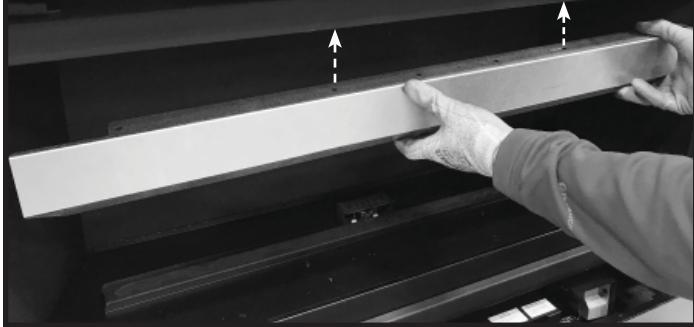
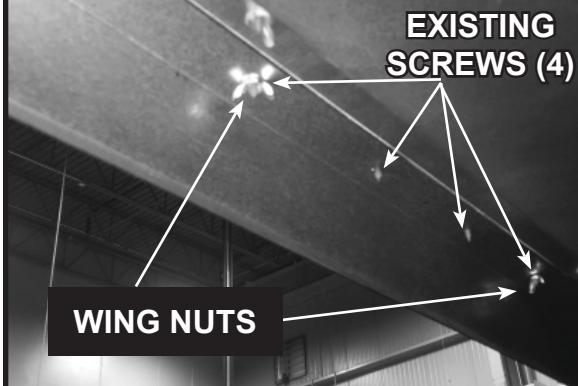
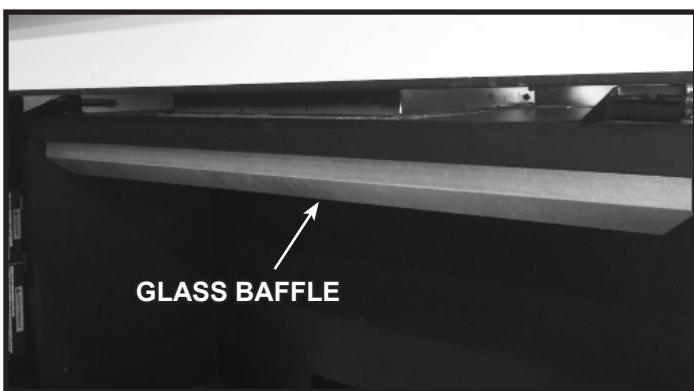

Figure 12. Glass Baffle Alignment
Figure 13. Secure Glass Baffle with Wing Nuts - Inside Top View
Figure 14. Glass Baffle Installed - Front View
- Place the glass baffle into position as shown in Figure 12. Align the glass baffle with the four existing screws located on the inner front top of the firebox. Secure with the two wing nuts included in the kit. See Figure 13. The installed glass baffle is shown in Figure 14.